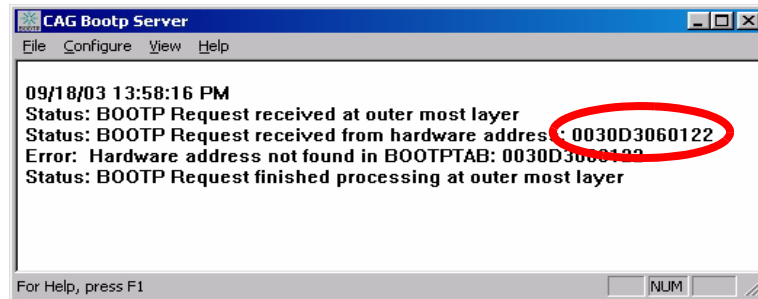

Figure 7 Bootp Server
- 3 Now turn on the module with the Firmware Updates and view the Bootp Server window. After some time the Bootp Server will display the request from the Firmware Updates with the hardware (MAC) address (this information is also stored in the file trace.txt in the Bootp server directory, if Log to Disk is enabled), see Figure 7 on page 33.
- 4 Identify your Firmware Updates by the MAC address, see Figure 7.
When using this **Bootp** mode, the parameters are not written into the non-volatile memory of the card. If you delete this Bootp Configuration, the LAN Interface will show up as shown in Figure 7 on page 33 (**Bootp** mode).